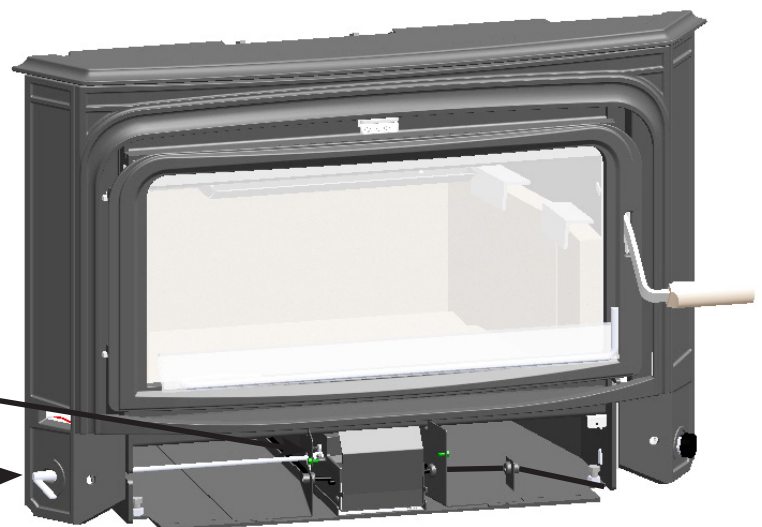

Fig. 3
4. Slide the thermostat rod in from the left side of cast, ensure the thermostat is fully open with the set screw making contact with the stop (see below), then align machined faces of rods, secure with the supplied set collar. (**Fig. 3**)